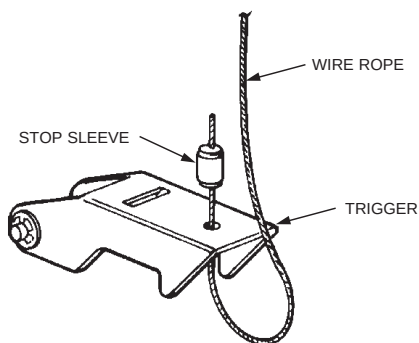

FIGURE 5-47
11. Remove side cover on gas valve and thread end of wire rope through hole in cocking lever. Slide stop sleeve (Part No. 26317) on to wire rope and crimp. (Use the National Telephone Supply Company Nicopress Sleeve Tool Stock No. 51-C-887 or equal to properly crimp stop sleeve.) Make certain crimp is on top of trigger, with wire rope curled under lever. See Figure 5-47.